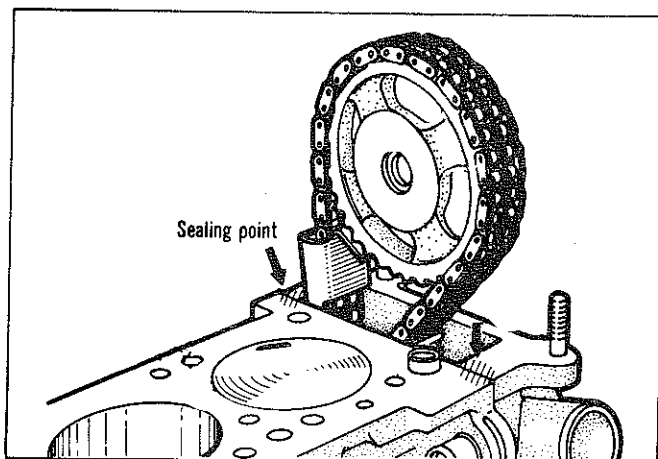

Fig. 7—Sealing points
(1) Ensure that the joint surface between the top of the chain cover and cylinder block is flat.
(2) Apply sealant to the two joint surfaces as shown in Fig. 7.